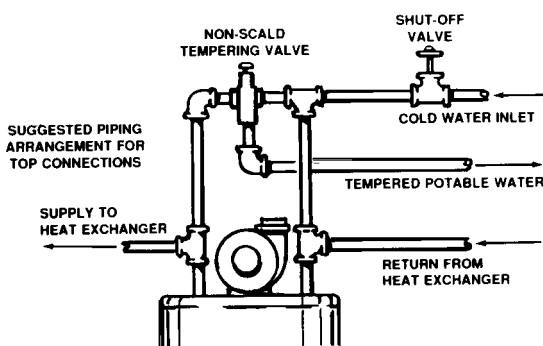

FIGURE 2
4. When the system requires water for space heating at temperatures higher than required for domestic water purposes, a tempering valve must be installed. Please refer to Figure 2 for suggested piping arrangement.